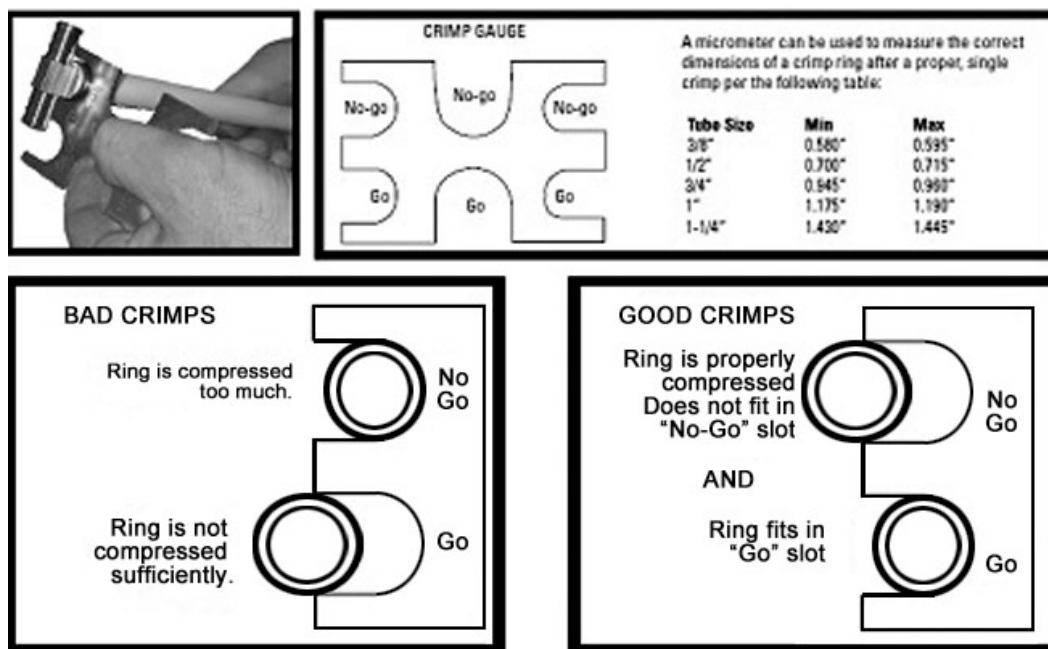

Figure 1-2. Go/no-go gauge.
5. Use the go/no-go gauge (fig. 1-2) to check every crimp joint. An improper crimp has been formed when (1) the "go" side does not fit over the ring or, and (2) the "no" side does fit over the ring. If the joint fails either of these two tests, then cut out the joint and return to Step 1.